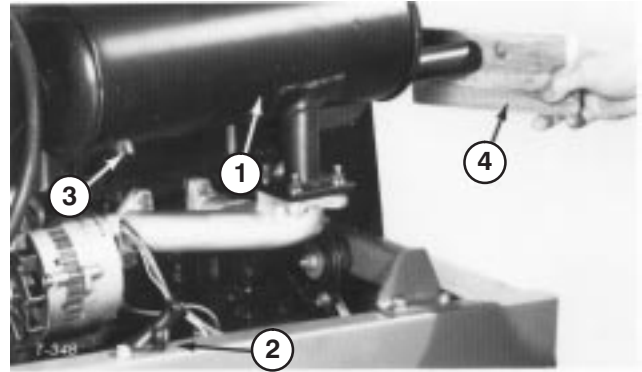

Figure 48
2. Remove pipe plug from clean-out port at lower side of muffler (Fig. 48).
3. Start engine. Plug the normal muffler exit with block of wood or metal plate so exhaust flow will be forced out of the clean-out port (Fig. 48). Continue to block exit until carbon deposits cease coming out port.